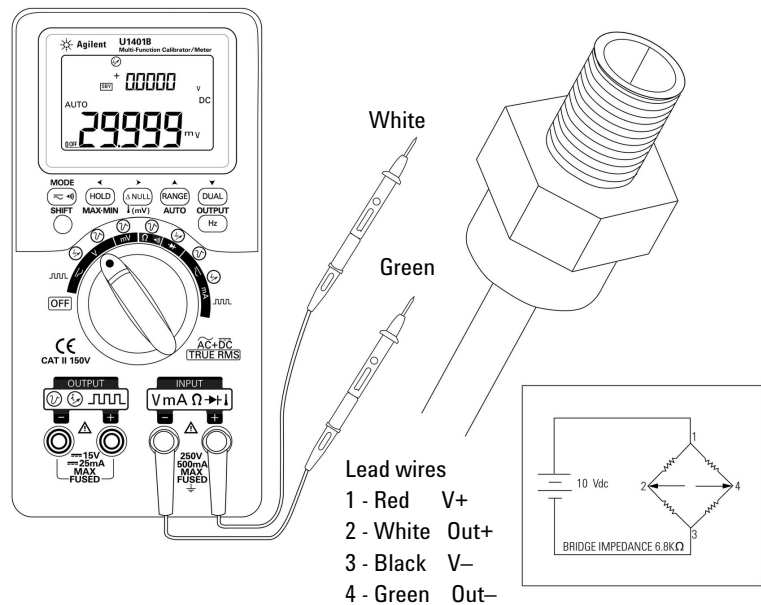

Figure 5-4 Pressure transducer measurement
- 3 Probe the test points (Figure 5-4 on page 93) and read the display.